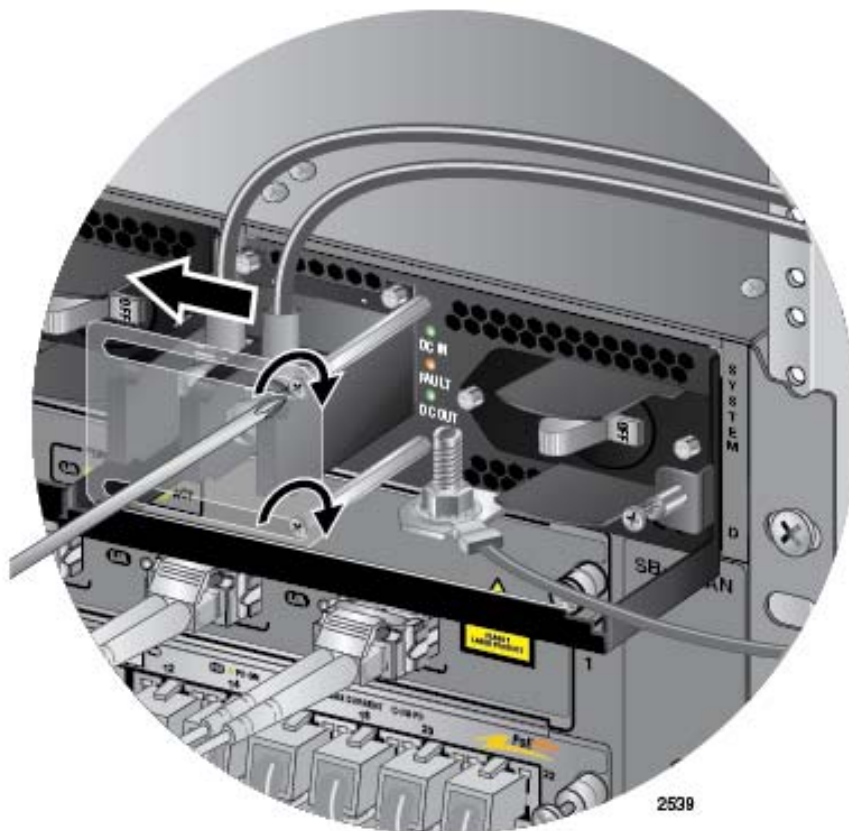

Figure 140. Closing the Plastic Cover over the Terminal Connectors
8. Slide the plastic cover to the left and lightly tighten the two screws with a #1 Phillips-head screwdriver to secure the cover. See Figure 140 on page 206. You might need to lift the locking handle slightly to access the bottom screw.
7. Slide the plastic cover to the left and lightly tighten the two screws with a #1 Phillips-head screwdriver to secure the cover. See Figure 140 on page 206. You might need to lift the locking handle slightly to access the bottom screw.